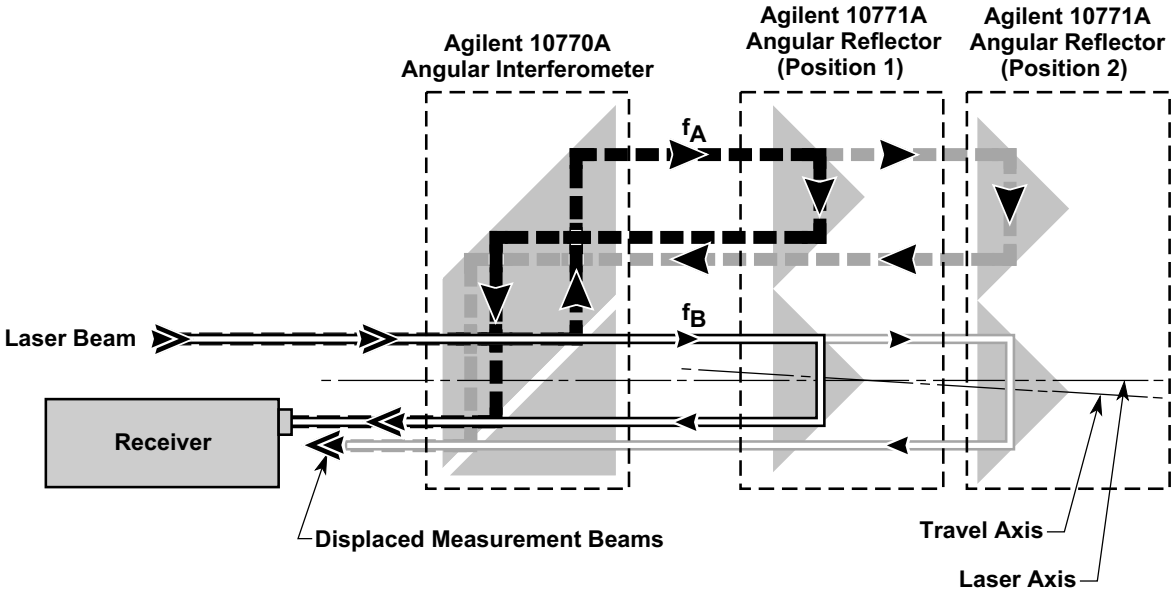

Figure 7V-3. Measurement beam dots movement
4. Move the reflector away from the interferometer. If the laser beam is not parallel to the axis of travel, the measurement beams will begin to move away from their original position on the receiver aperture. The impinging beams will move until the beam is cut off by the edge of the interferometer’s aperture. Stop moving the reflector before the beam is blocked, or when the end of travel is reached. Figure 7V-3 illustrates this situation.